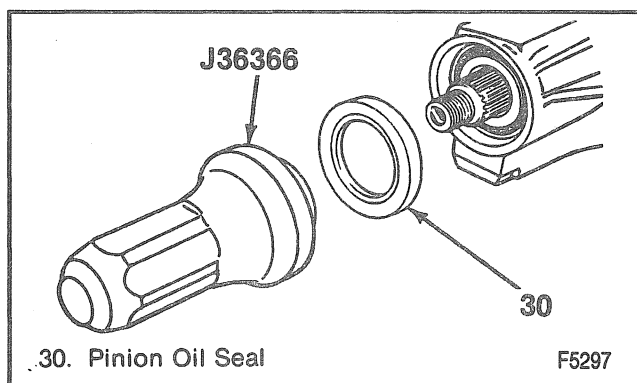

Figure 19—Installing the Pinion Seal
Install or Connect (Figures 19 and 20)
- Position the oil seal in the bore. Then place J 22804-1 over the oil seal and flat against the seal flange (Figure 19).